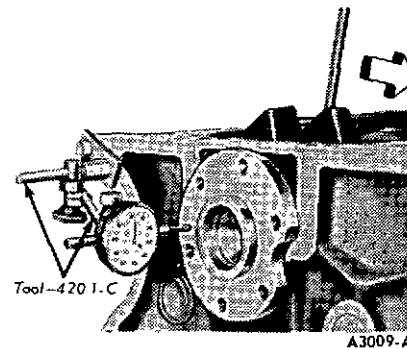

FIG. 8 Checking Crankshaft End Play
2. Install a dial indicator so that the contact point rests against the crankshaft flange and the indicator axis is parallel to the crankshaft axis (Figure 8).